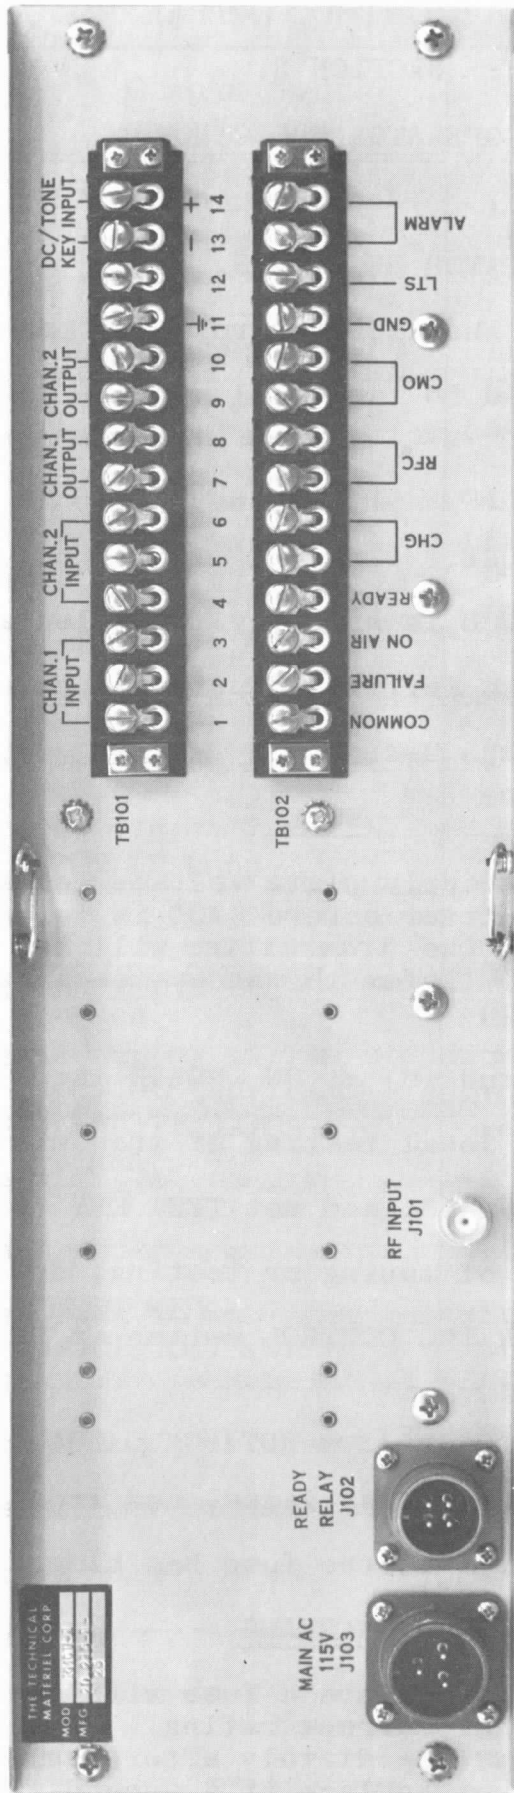
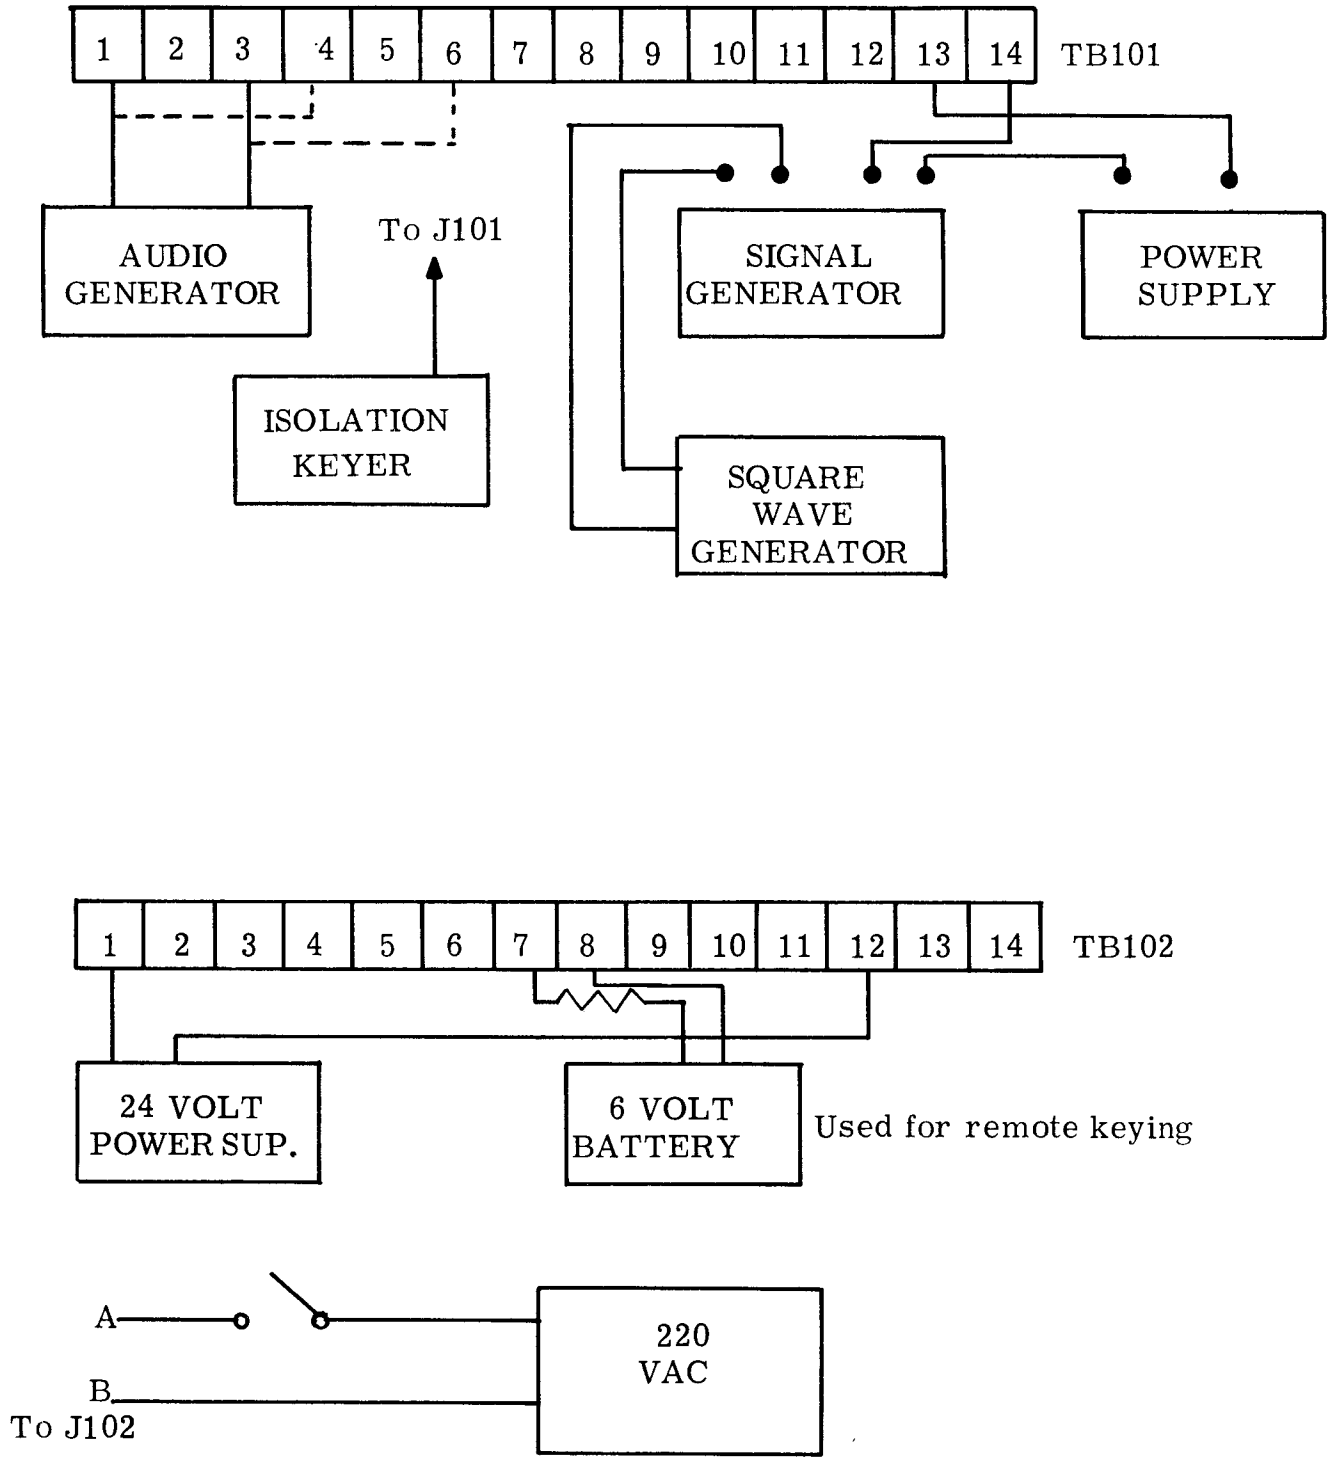

Figure 2-2. Rear Panel, KMCU
Figure 5-1. Interconnection Diagram, KMCU
a. MANUAL KEYING CHECK. - Figure 5-1 illustrates the interconnections between test equipment and TB-101 of the KMCU; also refer to figures 2-2, 2-3, and 3-1. Set KEYING CONTROL (on front panel) at LOCAL, KEYING SELECTOR (located inside the unit) at 50 V, HOLD IN ADJ fully counter-clockwise, and THRESHOLD at mid-range. With multimeter set at RX-1, connect it to terminals 5 and 6 (CHG) of terminal board (on rear panel) TB102. Press TEST KEY (on front panel). Multi-meter should indicate "short." When TEST KEY is released, meter should indicate "open."